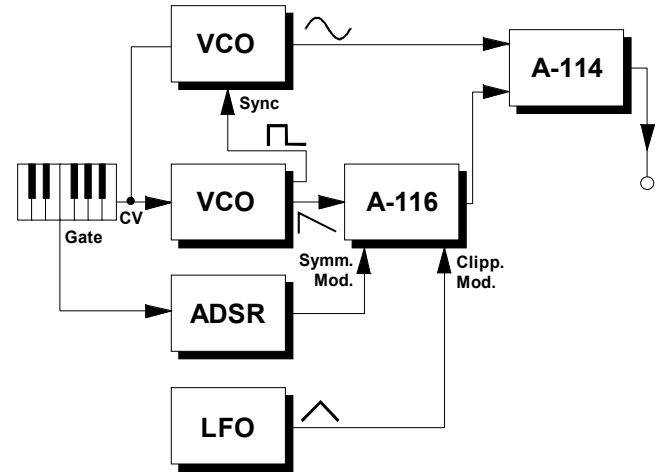

Fig. 3: The A-116 used in combination with a ring modulator and synced VCOs.
- Try using as an input the signal coming from a ring modulator or a synced VCO. You can also get interesting results by feeding the output of the A-116 into a ring modulator, or into the sync input socket of a VCO (see Fig. 3).